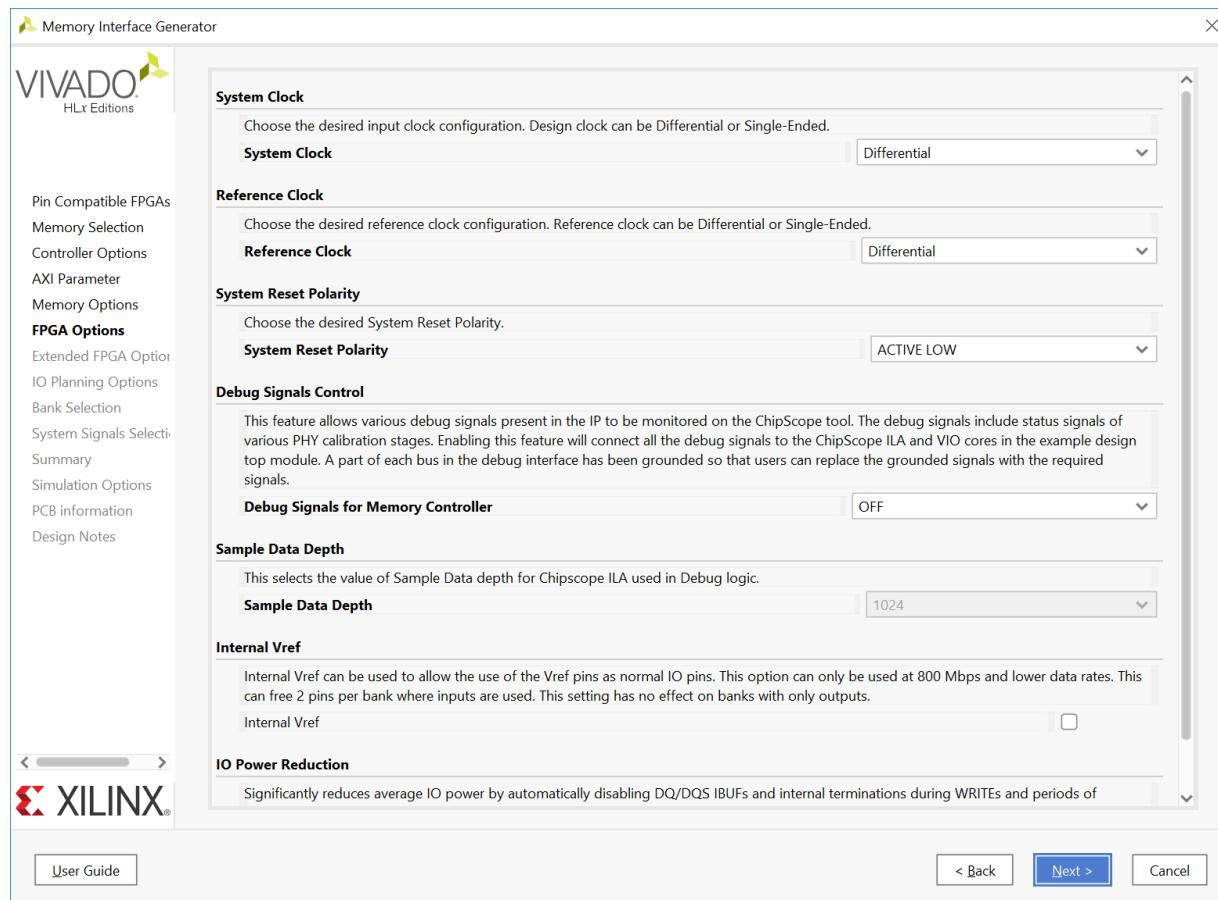

Figure 4-21: **FPGA Options**
Figure 4-21 shows the **FPGA Options** page.
- **sys_clk** – This is the system clock input for the memory interface and is typically connected to a low-jitter external clock source. Either a single input or a differential pair can be selected based on the **System Clock** selection in the **FPGA Options** page (Figure 4-21). The **sys_clk** input must be in the same column as the memory interface. If this pin is connected in the same banks as the memory interface, the MIG tool selects an I/O standard compatible with the interface, such as DIFF_SSTL12 or SSTL12. If **sys_clk** is not connected in a memory interface bank, the MIG tool selects an appropriate standard such as LVCMOS18 or LVDS. The XDC can be modified as desired after generation.
- **clk_ref** – This is the reference frequency input for the IDELAY control. This is a 200 MHz input. The **clk_ref** input can be generated internally or connected to an external source. A single input or a differential pair can be selected based on the **System Clock** selection in the **FPGA Options** page (Figure 4-21). The I/O standard is selected in a similar way as **sys_clk**.
- **sys_rst** – This is the asynchronous system reset input that can be generated internally or driven from a pin. The MIG tool selects an appropriate I/O standard for the input such as LVCMOS18 and LVCMOS25 for HP and HR banks, respectively. The default polarity of **sys_rst** pin is active-Low. The polarity of **sys_rst** pin varies based on the **System Reset Polarity** option chosen in **FPGA Options** page (Figure 4-21).